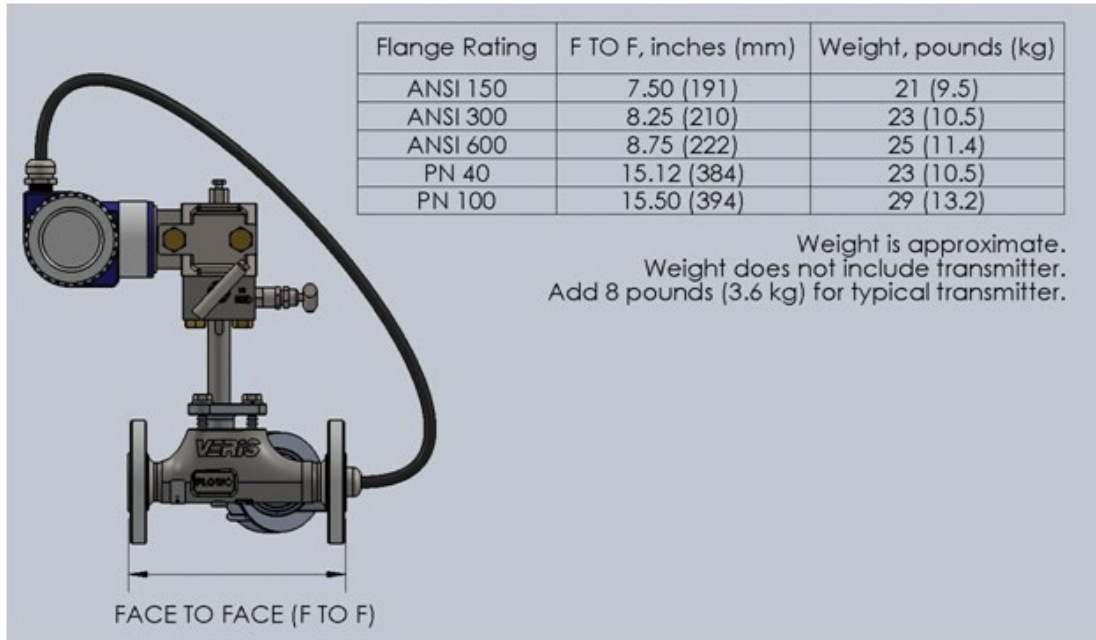

Figure 3. Face to Face Dimensions and Weights
- Remove a section of the pipe large enough to accommodate the face-to-face flange dimension of the corresponding sized Accelabar® shown in Figure 3.
- Position Accelabar® in piping void that has been prepared per dimension in Figure 3. Be certain the flow arrow on the Accelabar® is oriented in the same direction as the flow in the pipe. Failure to orient the Accelabar® correctly may result in poor and inaccurate flow measurement.